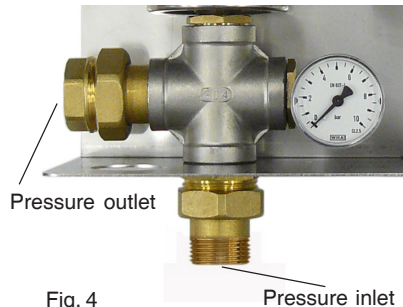

Fig. 4
- Connect the pressure pipe leak-tight and tightly with the pressure inlet of the unit, see fig 4.